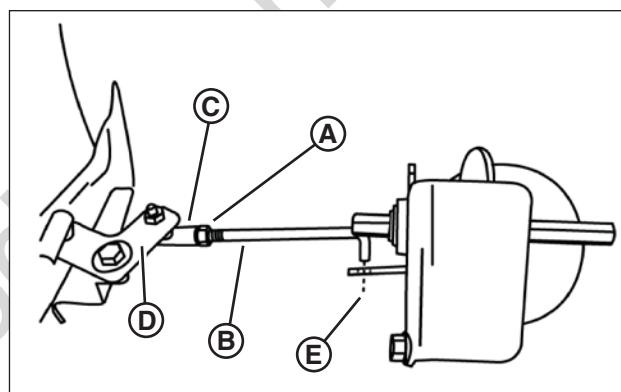

Figure 29: Adjusting the transfer rod
4. Loosen the jam nut (**A**, **Figure 29**) securing the transfer rod (**B**) to the ball joint (**C**) on the pivot bracket (**D**).